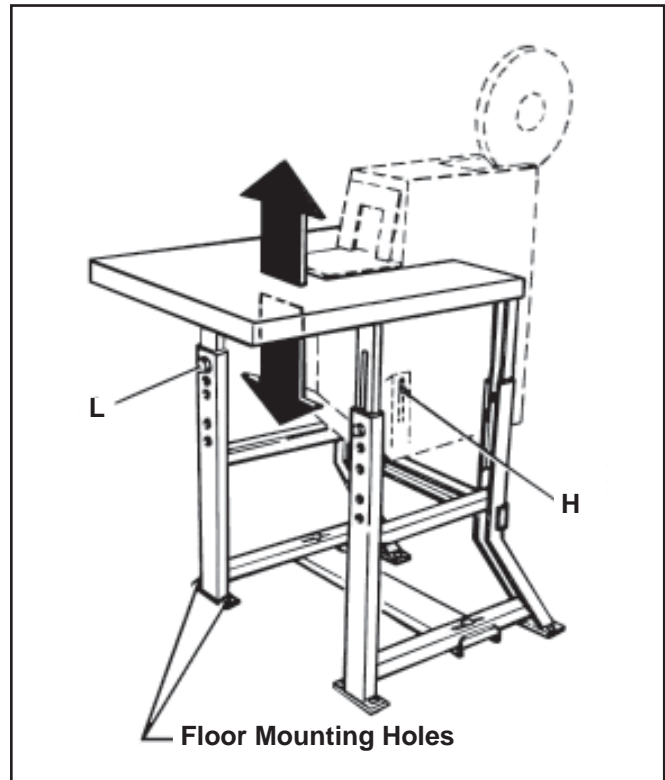

Figure 14-2 Work Surface Adjustment - Right Front View
14.1 Single Head Stand - Refer to Figure 14-2
14.2 Work Surface Height - Refer to Specifications and Figure 14-2.